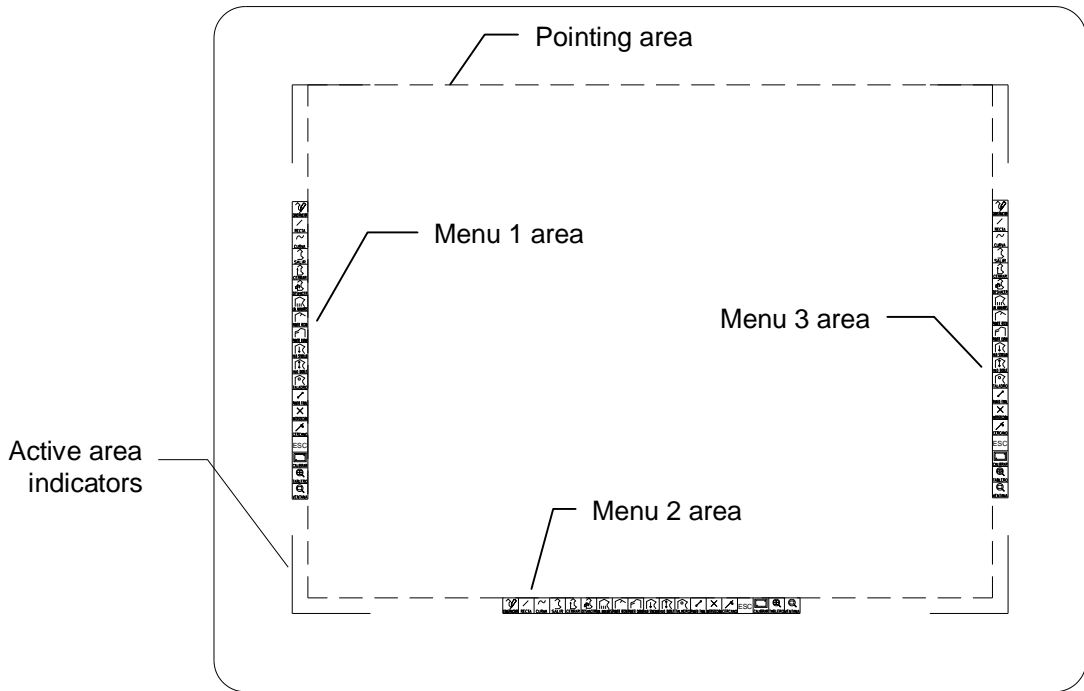

Figure 1.1
1. Stick the three template menus onto the tablet as shown in Figure 1.1 The templates must be situated within the active area of the tablet, just inside the border. The active area of a digitizing tablet is marked or printed upon it, and is the part of the tablet that receives the cursor signals.